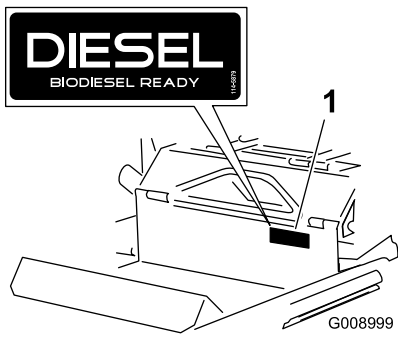

Figure 14
4. Clean the existing front decal and the area around it and let it dry (Figure 14).
5. Install the new diesel decal over the existing one. See Figure 14.